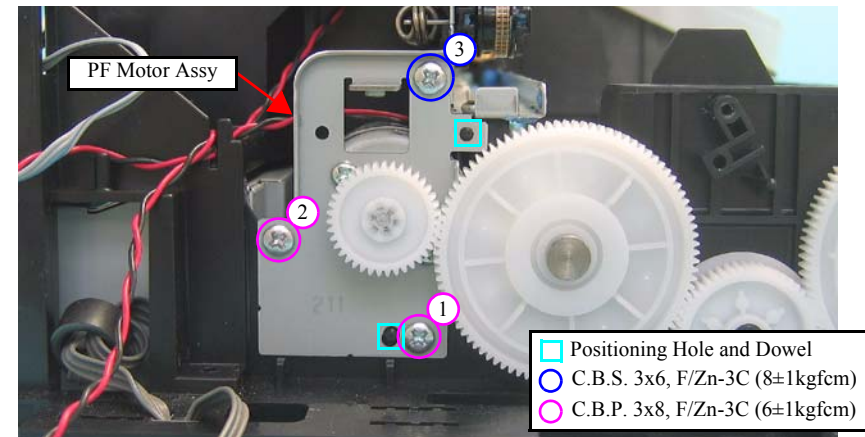

Figure 4-74. Removing the PF Motor Assy (2)
- Insert the dowels (x2) on the Base Frame into the positioning holes (x2) of the PF Motor Assy as shown in Figure 4-74.
- Tighten the screws in the order given in Figure 4-74.